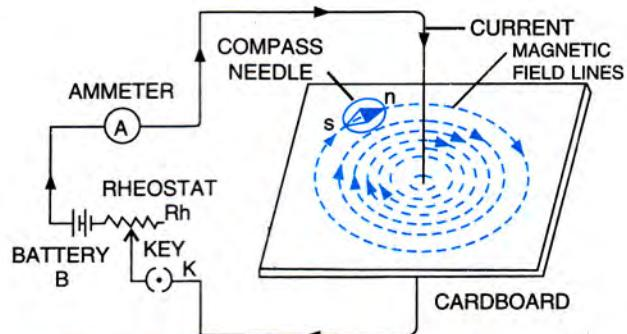

Fig. 10.2 Magnetic field lines around a straight current carrying wire
**Experiment :** Take a sheet of smooth cardboard with a hole at its centre. Place it horizontal and pass a thick copper wire XY vertically through the hole. Connect an ammeter A, battery B, rheostat Rh and a key K between the ends X and Y of the wire as shown in Fig. 10.2. Sprinkle some iron filings on the cardboard and pass an electric current through the wire by inserting the plug in the key K. Gently tap the cardboard.
It is observed that the iron filings get arranged along the concentric circles around the wire as shown by the dotted lines in Fig. 10.2.